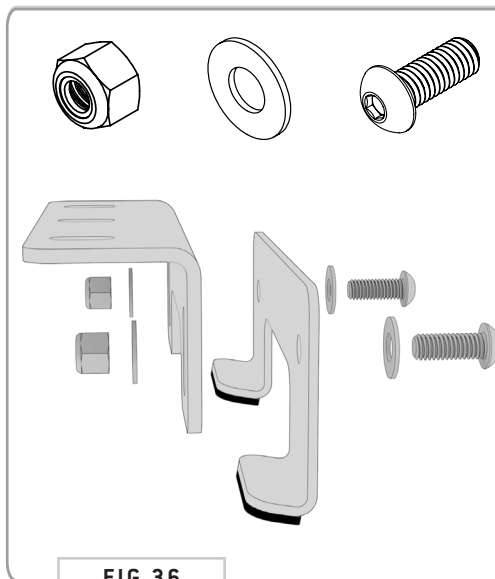

FIG 36
**13.1 Assemble Support Brackets:** Attach the **Passenger** and **Driver Side Support Brackets** to the **Support Foot Brackets** (FIG 36) using (2ea) 3/8-16 X 1 Button Head Hex Drive Screws, 3/8 Screw Flat Washers and 3/8-16 Nylon Locknuts, leaving the hardware loose enough to slide the two pieces for adjustment.